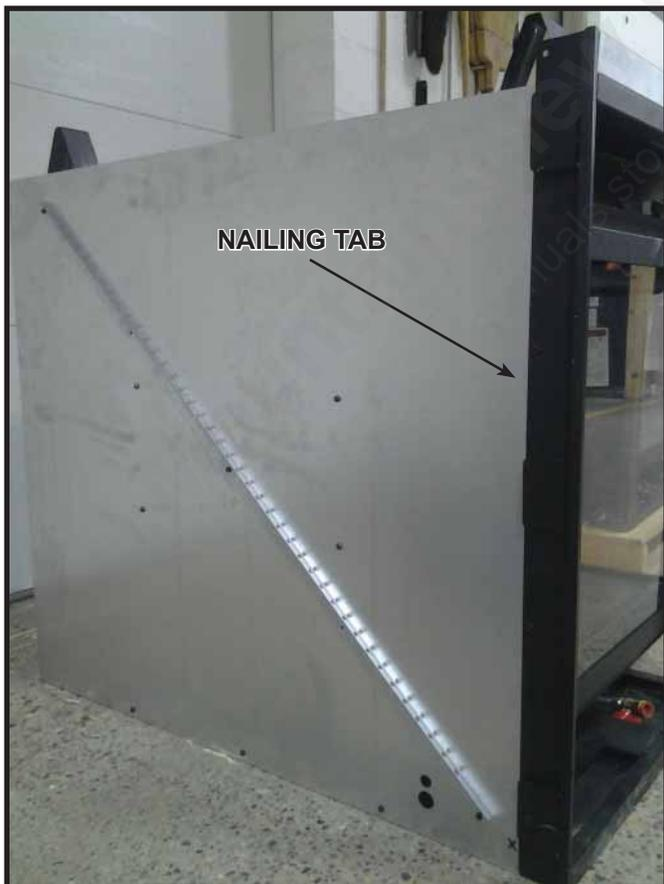

Figure 9.10 Nailing Tab Location
The diagram shows how to properly position, level, and secure the appliance (see Figure 9.10). Nailing tabs are provided to secure the appliance to the framing members.
2. See Figure 9.10 for LCOR and RCOR nailing tab location.